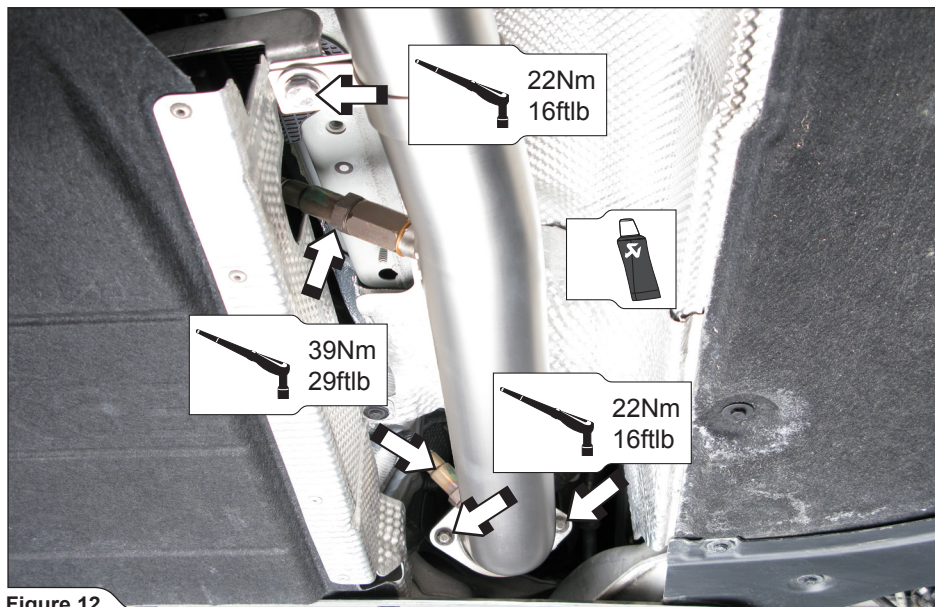

Figure 12
2. **For Evolution:** tighten the headers, header's clamps and lambda sensors to a specified torque (Figure 12).